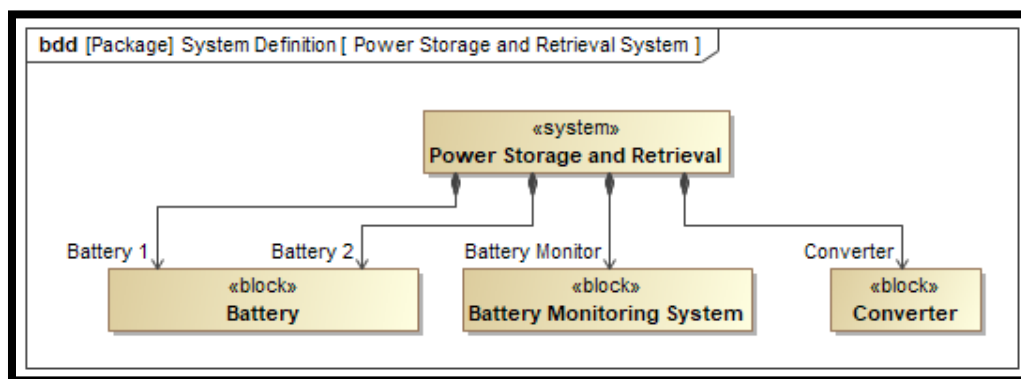

Figure 5 Example System Hierarchy
1. Given the basic hierarchy of the system (example below in Figure 5) exists and the excel file with the necessary connector definitions and signal flows exist (see Figure 4), the user adds the packages that contain the system hierarchy and any existing elements such as signals or interface blocks to be used to the plugin scope by right clicking on each package in the containment tree and selecting “Connector Tool (Add Package To Scope).”